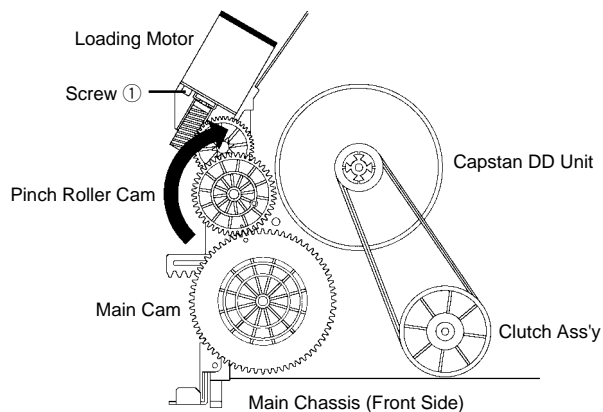

Fig.2
2. Remove the screw ① of the Deck Chassis and remove the Loading Motor.
3. Rotate the Pinch Roller Cam in the direction of the arrow by hand to slacken the Video Tape. **(Refer to Fig. 2)**